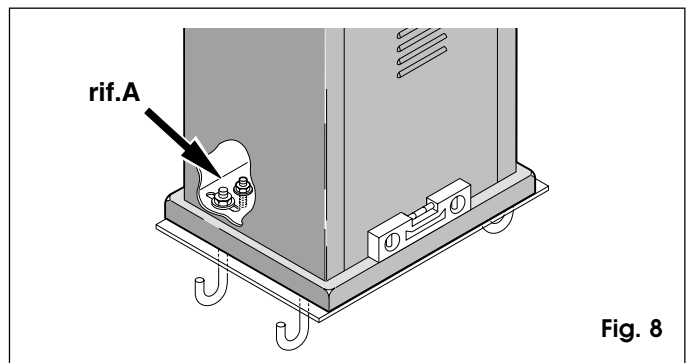

Fig. 8
- 2) Fit the adjustment screws on the gear motor base as shown in A, fig. 8.
After installing the rack, lower the position of the gear motor (fig. 12) by adjusting the level screws (A, Fig. 8) by about 4 mm to ensure correct meshing with the pinion. Screw up tightly the 4 gear motor securing nuts.